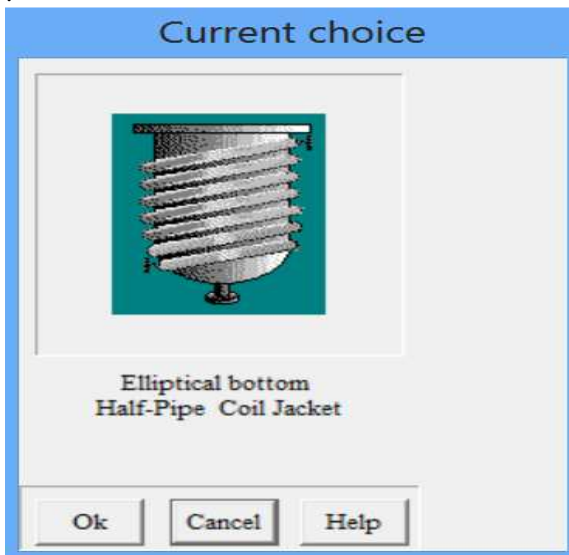

Figure 1. Selecting the tank type.
3.1. Selecting a tank with half-pipe jacket from graphic menu and entering main dimensions (Figs.1, 2).